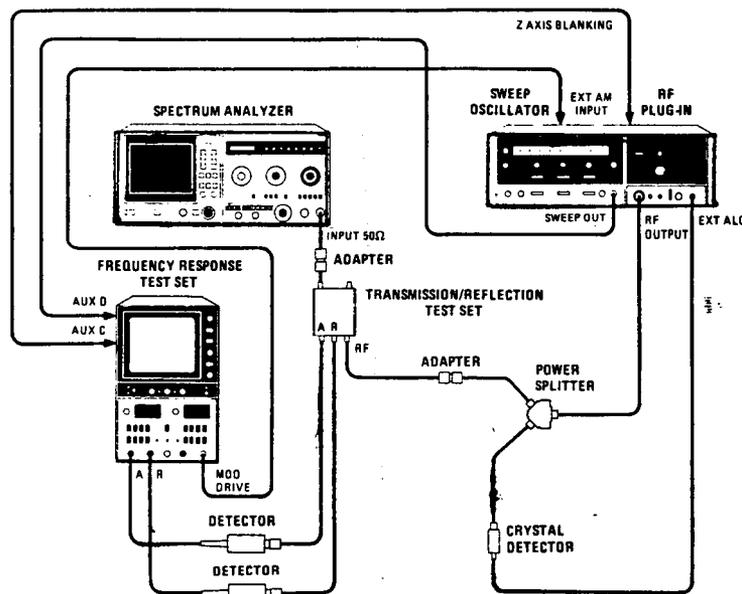

Figure 4-29. 10 MHz to 1.8 GHz Return Loss Measurement
2. Using .01 to 2.4 GHz source, connect equipment as shown in Figure 4-29. Set HP 8502A RF INPUT ATTENUATION dB to 0.